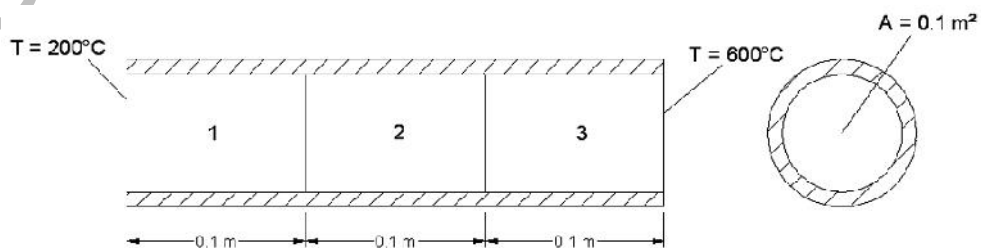

Fig.4
- 14 For the composite wall idealized by the 1D model shown in Fig.4 determine the interface temperatures. For element 1  $K_{xx} = 5 \text{ W/m}^0\text{C}$ ; element 2  $K_{xx} = 10 \text{ W/m}^0\text{C}$ ; element 3  $K_{xx} = 15 \text{ W/m}^0\text{C}$ . The left and right ends maintain a constant temperature of 200 and 600 degree centigrades respectively.